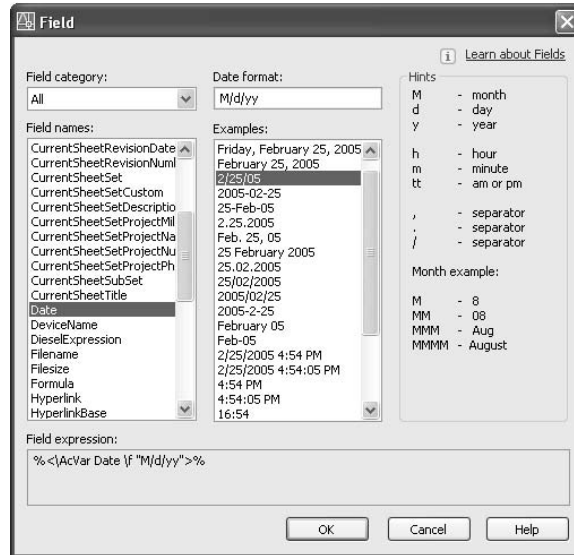

FIGURE B.31 The Field dialog box
7. For the value, click the Insert Field button to the right of the Value text box. This opens the Field dialog box (see Figure B.31).
10. To the right, in the Examples list, select the date format that displays the date as one like 4/1/05 in Figure B.31. (It's the fourth one from the top. Your date will be the current date.) Above the Examples list, the Date Format text box should display M/d/yy as the date format.